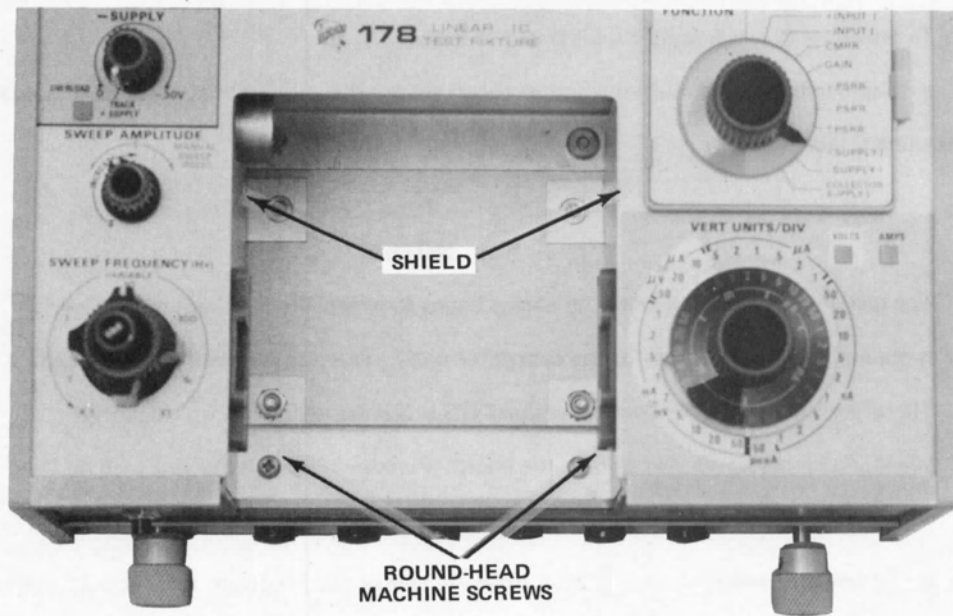

Fig. 4-3. Top view of the 178 showing storage-compartment shields.
- c. Remove the two pan-head machine screws from inside the storage compartment (see Fig. 4-3).
- d. Remove the two shields that form the side of the storage compartment. See Fig. 4-3. (The front shield, held in place with two hex nuts, Fig. 4-3, need not be removed).